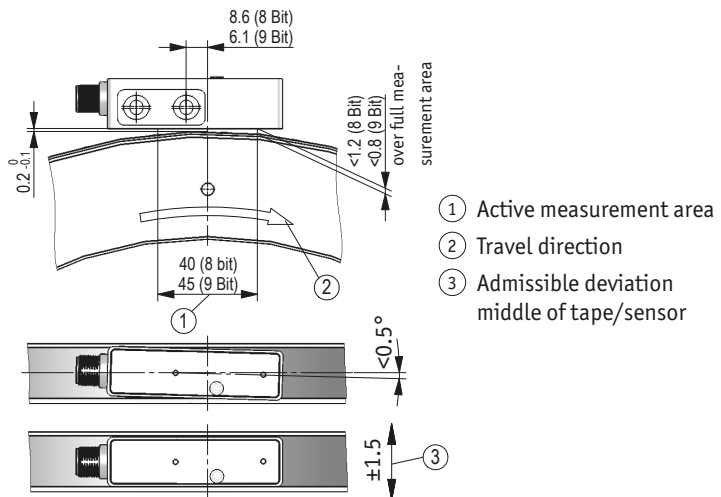
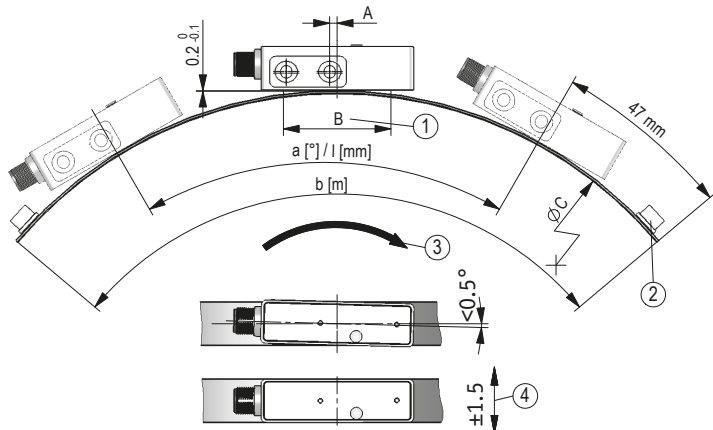

Fig. 1: Mounting tolerances with MRAC501
Fig. 2: Mounting tolerances with MBAC501 (Dimensions: see the table below)
- ▶ Take care that the magnetic sensor is aligned correctly in order to ensure optimum sensing (see **Fig. 1** + **Fig. 2**).
2. The position of the sensor regarding the magnetic ring / tape is exactly defined. When mounting, special care shall be taken to maintain an air gap between tape and sensor over the whole measurement distance whether the tape or sensor is moved or not (see **Fig. 1** + **Fig. 2**). As a mounting aid you may use the enclosed spacing template.